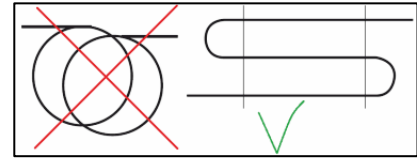

Fig. 14
**IMPORTANT:** Excess cable must not be wound up in a coil but must be placed in slings (Fig. 14).